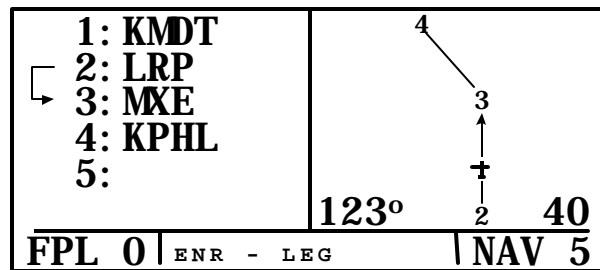

Figure 3D-14. NAV 5 Page
e. NAV 5 Page. The NAV 5 page provides a navigation graphics presentation. Refer to Figure 3D-14.